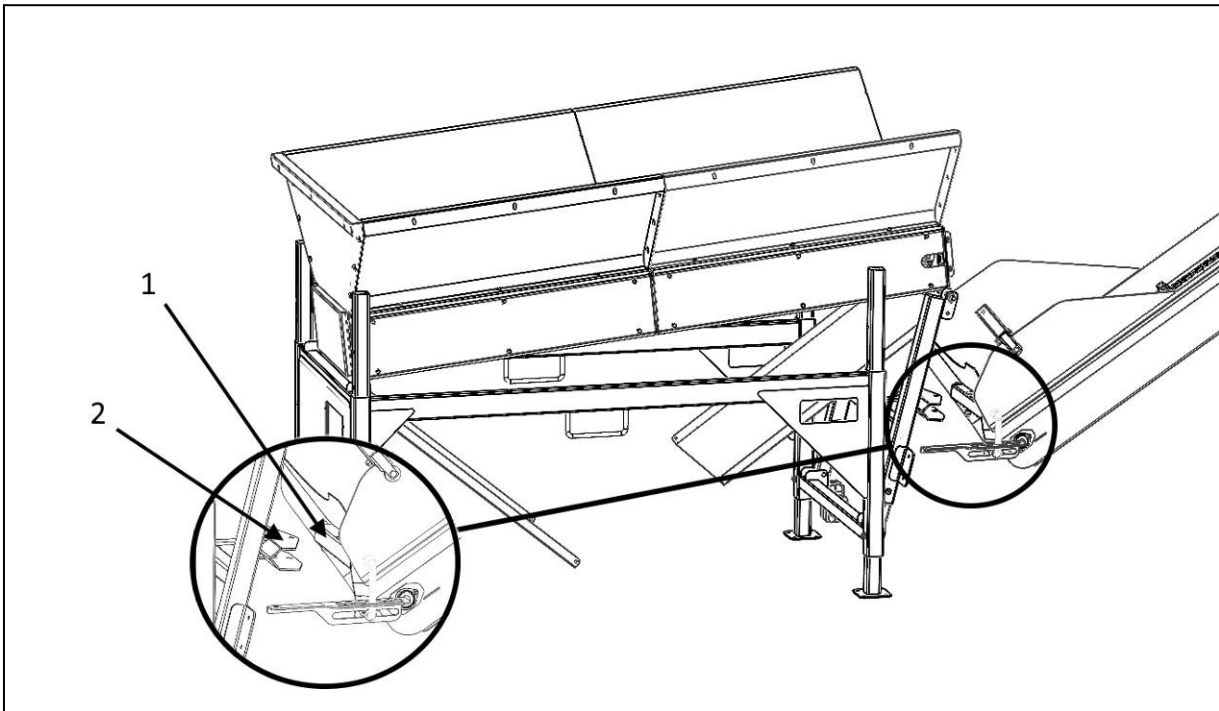

Figure 3
1. Slide the conveyor swing bar (Part 1, Figure 3) into the opening (Part 2, Figure 3)